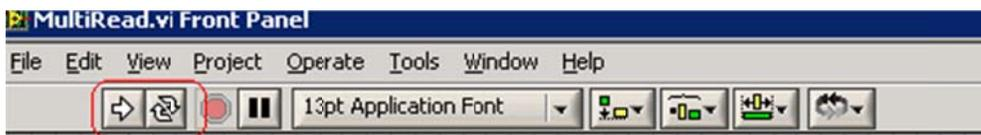

Figure 2. Initiation of Virtual Instrument
2. Start the VI by clicking appropriate button on the top of the LabView window as shown in figure 2